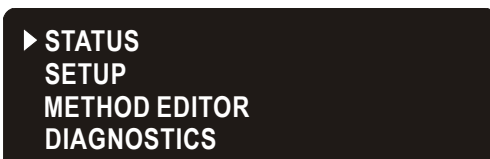

Figure 3-12. Menu Screen
1. Press **MENU** to display the **MENU** screen (see Figure 3-12).